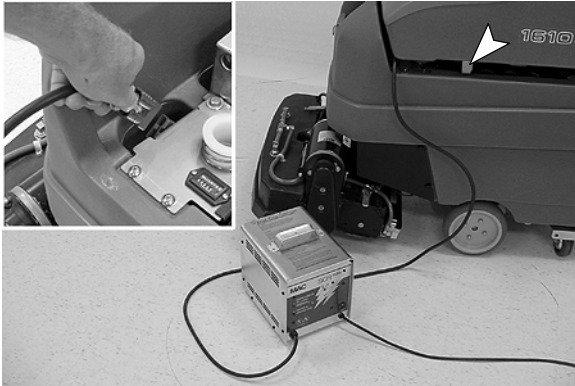

FIG. 23
5. Connect the charger's DC cord to the machine's battery receptacle located under the recovery tank (Figure 23). Rest the recovery tank on the support stand to promote ventilation during charging.